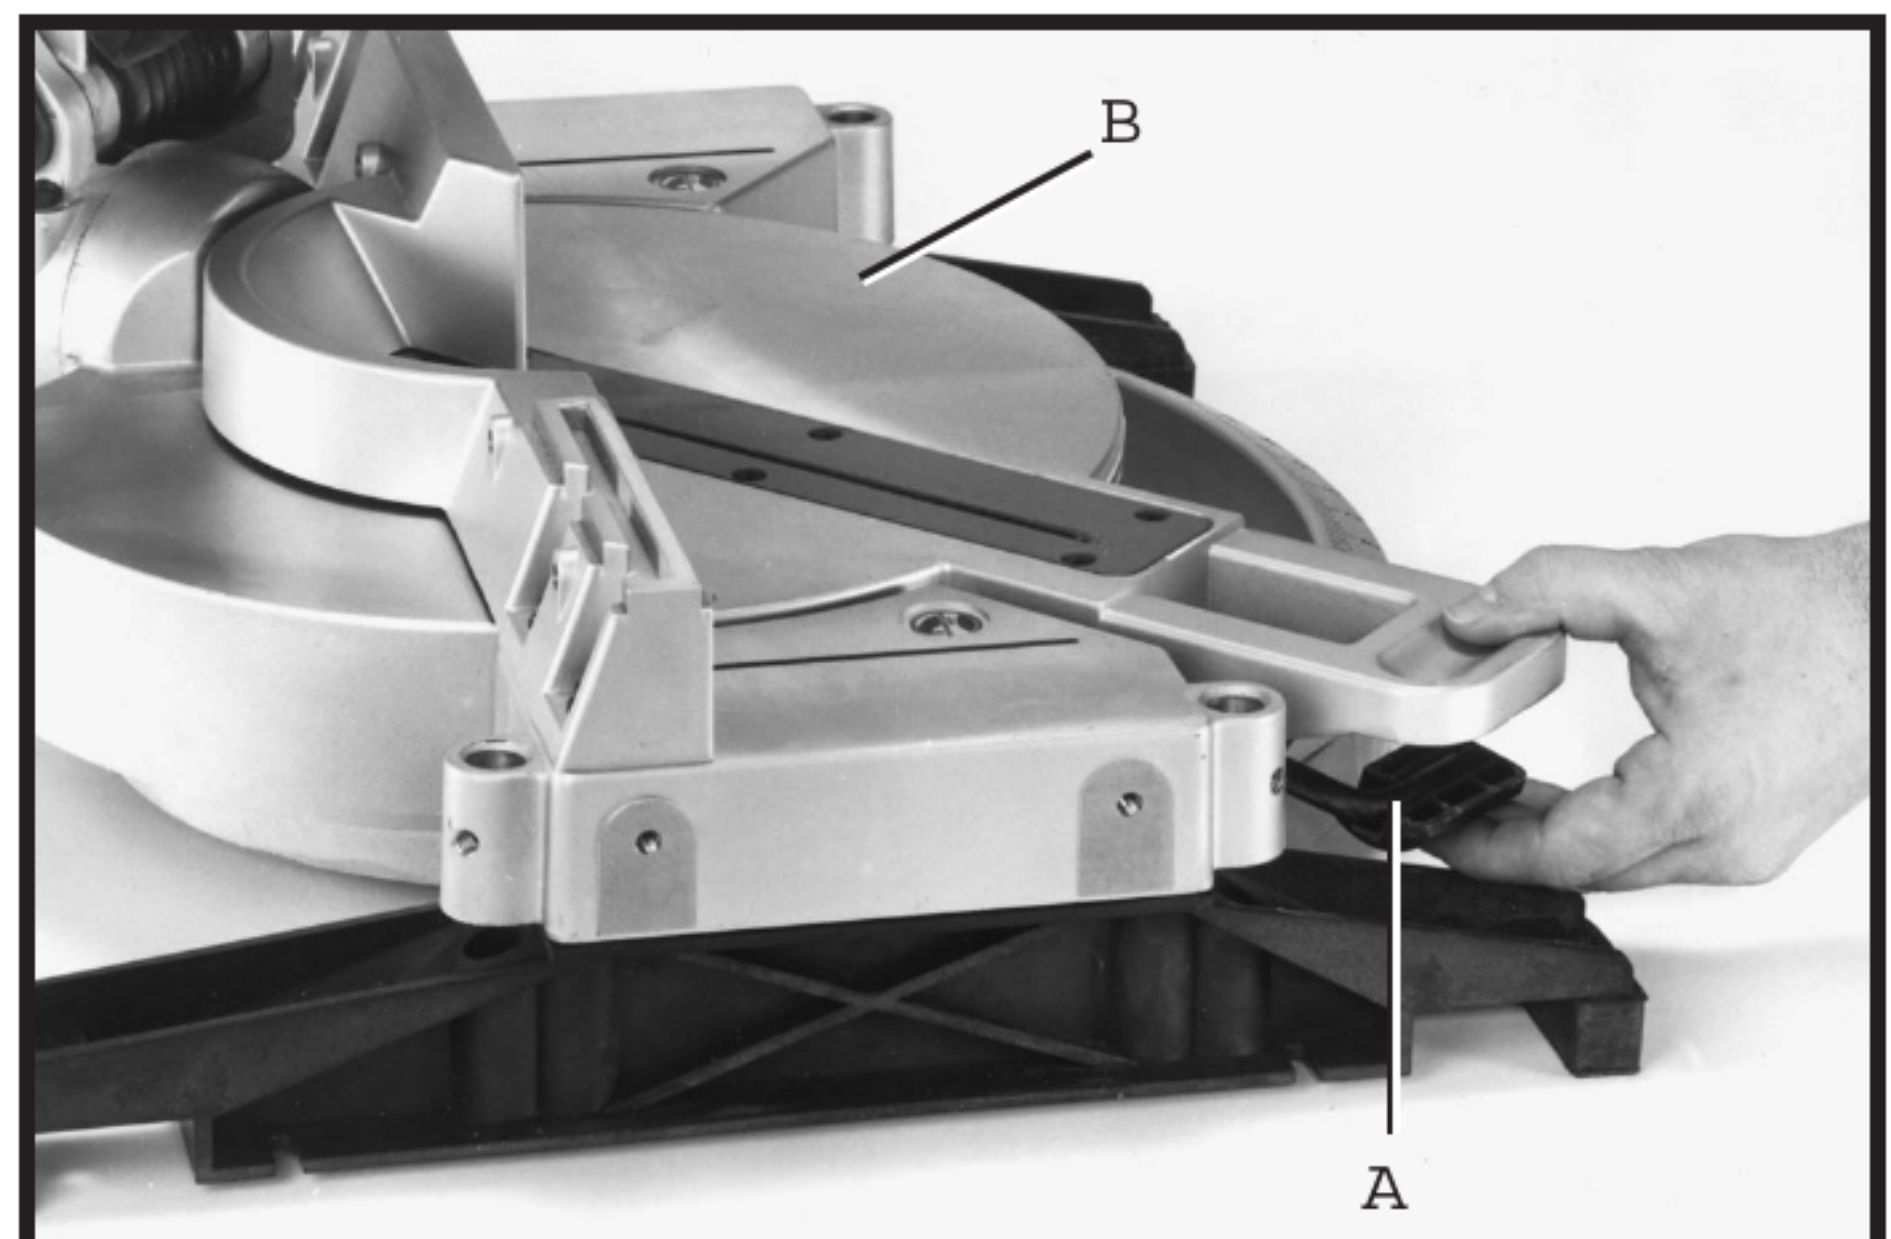

Fig. 6
1. Depress table lock lever (A) Fig. 6, and rotate table (B) to the 90 degree straight cut-off position. Then release lock lever (A).